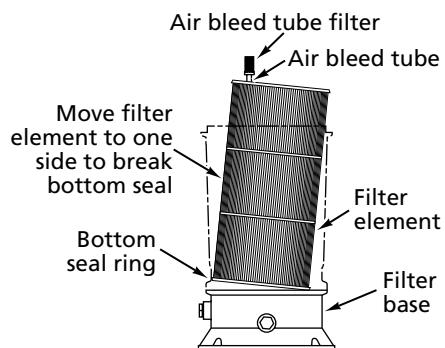

Figure 8
10. Rock filter element to one side (See Figure 8) to free seal.